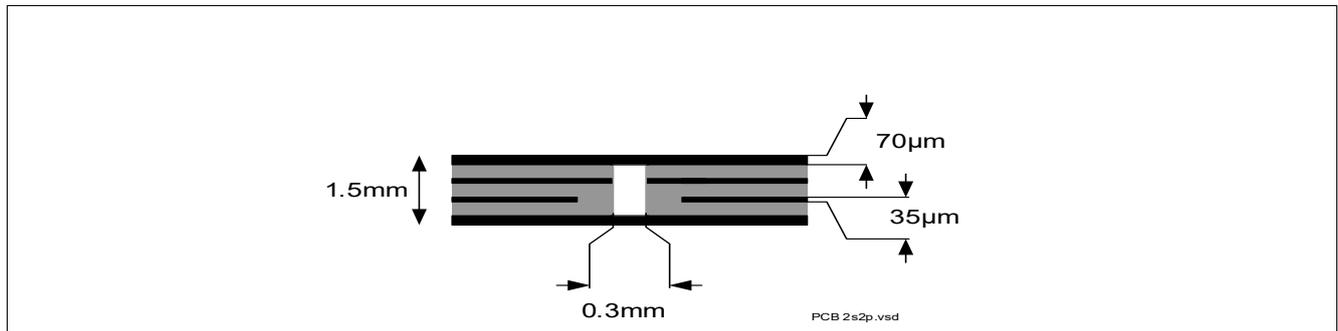

Figure 4 2s2p PCB Cross Section
- 2) Specified R_{thJA} value is according to JEDEC JESD51-2,-5,-7 at natural convection on FR4 2s2p board with 1 W power dissipation at $T_A=105^{\circ}C$; The product (chip + package) was simulated on a 76.4 x 114.3 x 1.5 mm board with 2 inner copper layers (2 x 7 μm Cu, 2 x 35 μm Cu). Where applicable, a thermal via array under the exposed pad contacts the first inner copper layer. Please refer to Figure 4.